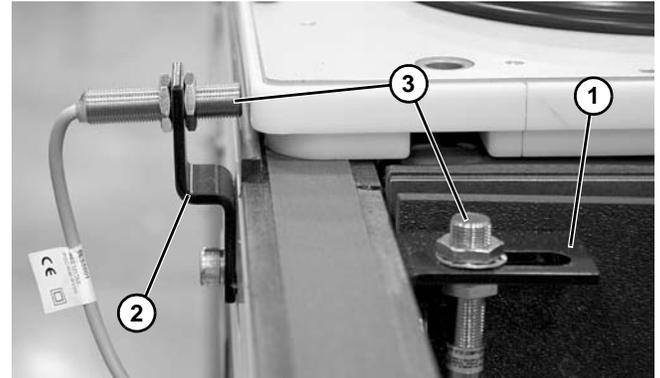

Figure 6
Optional bottom mount (**Figure 6, item 1**) or side mount (**Figure 6, item 2**) sensor brackets can be used to mount a 12 mm barrel proximity sensor (**Figure 6, item 3**).